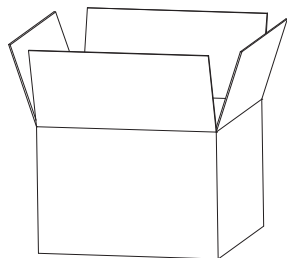

Fig 1
1. Take out the fixture and accessories in the box (Fig 1)